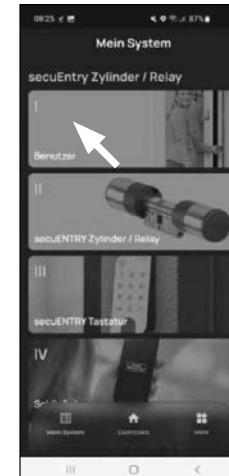

Fig. 1
- ① Tap on the menu item "I - User" (Fig. 1).